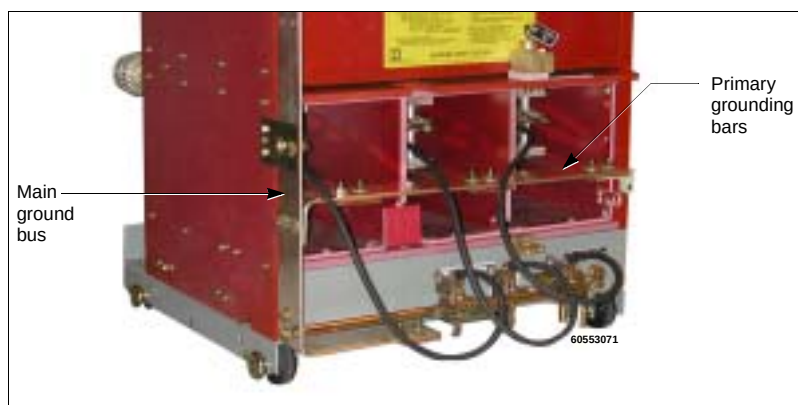

Figure 34: Primary Grounding Bars Installed
3. Install the primary grounding bars to the main ground bus (see Figure 34) and then to the primary extension terminals. Torque all bolts to 35 lb-ft (26 N•m).